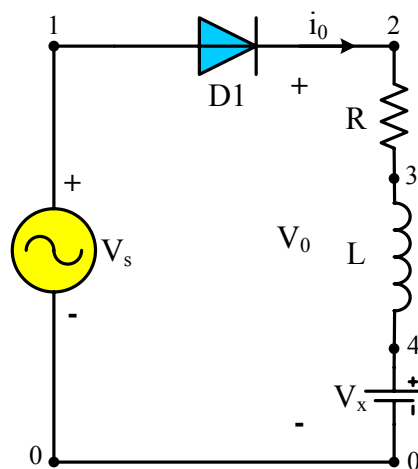

Figure 1-1 Single-phase half-wave rectifier
The circuit diagram of a single-phase half-wave diode rectifier is shown in Fig. 1-1. The performance parameters of the rectifier with a purely resistive load are given by:
8. Draw and complete the diode circuit shown in Fig. 1-1. Store the schematic in a file, say d:\EE460\lab1.sch. You can click the left mouse on the device or element and choose Attributes from the Edit menu. Alternately, you can change the attributes of any devices or elements by double clicking the left mouse and typing the new values.
9. Analyze the circuit of Fig. 1-1 by choosing Analyze from the Schematics menu.
- Choose the analysis type - Transient and give the transient information: print step, 10 μ s, final time, 100 ms, No-Print Delay, 66.66ms, Step Ceiling, 10 μ s, and Fourier information: center frequency, 60 Hz, No. of harmonics 10, and output variable, I(VX) V(R).
- Run the simulation of Fig. 1-1 and complete the Table 1-1 for two values of load inductances.